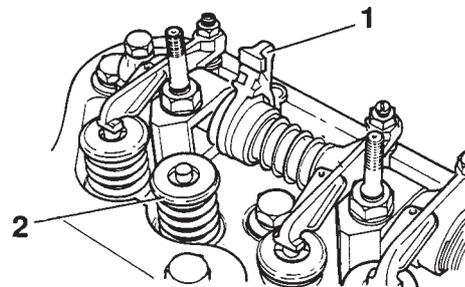

Fig.2 No.7 rocker released
5. Fully slacken No.7 rocker adjusting screw; release No.7 rocker from its push rod by pushing the rocker rearwards and turning it back through 90° to expose the end face of the valve stem (see fig.2).